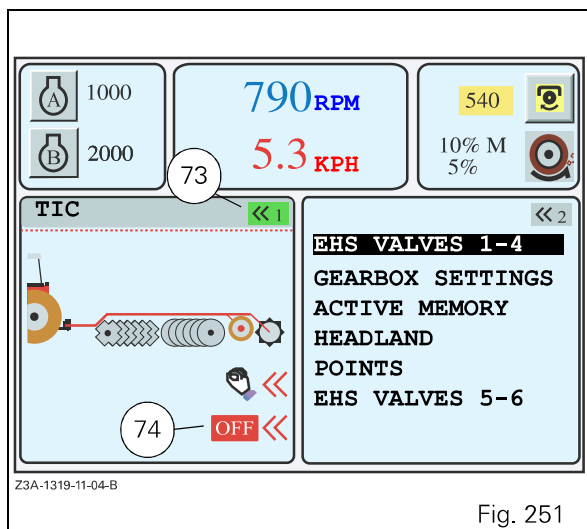
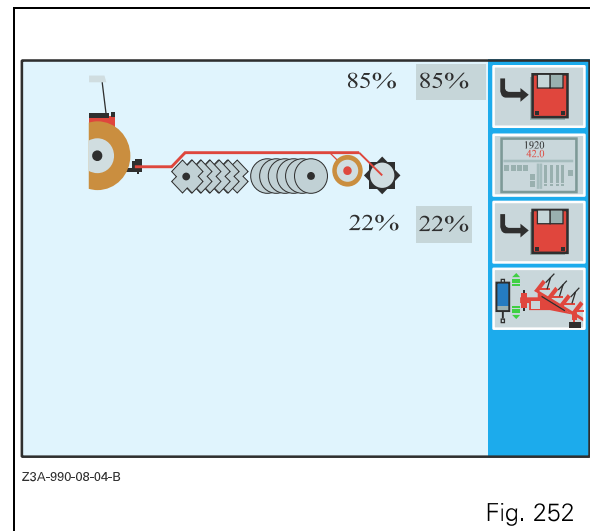

Fig. 251
Fig. 252
- Press the key <<2 When the window (Fig. 252) is open. The window (Fig. 251) is displayed.
- Press the key <<6 when the icon (73 Fig. 251) is green (if this is not the case, first press the key <<2 so the icon (73 Fig. 251) is displayed in green.
- The TIC function is then active and the symbol (74 Fig. 251) changes from OFF to ON.
During work either the Settings window (Fig. 252), or the Work window (Fig. 253) can be displayed.
### Description (Fig. 252):
To display this window, press the key <<3 when the window (Fig. 252) is open.